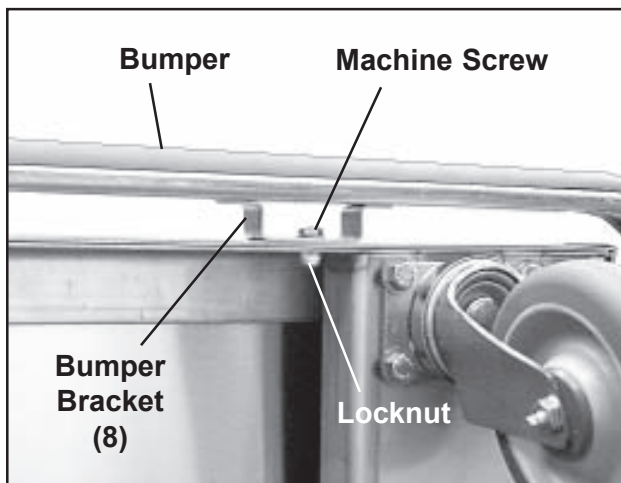

Figure 34. Bumper, Bracket, and Mounting Hardware
2. With two 7/16 in. wrenches remove the machine screws and locknuts from all eight bumper bracket positions (Figure 34).
3. Locate the roller you wish to replace. With two 7/16 in. wrenches, remove the machine screw and locknut that hold the roller in place, and remove the roller from the shelf or track, as appropriate (Figure 34).